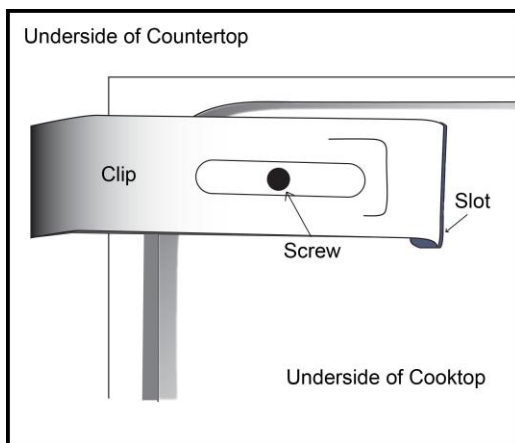

Figure 12
5) Secure cooktop from underneath with the supplied clips and screws (see Figure 12).